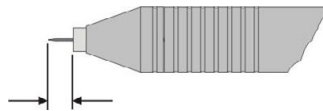

Fig. 5.2 Electrode length adjustment
- Insert the new tungsten electrode into the collet and adjust it to the correct length, i.e. clamp the tungsten electrode in the handpiece so that it protrudes approx. 0.16 – 0.24 in (4 - 6 mm) beyond the nozzle. (See Fig. 5.2)